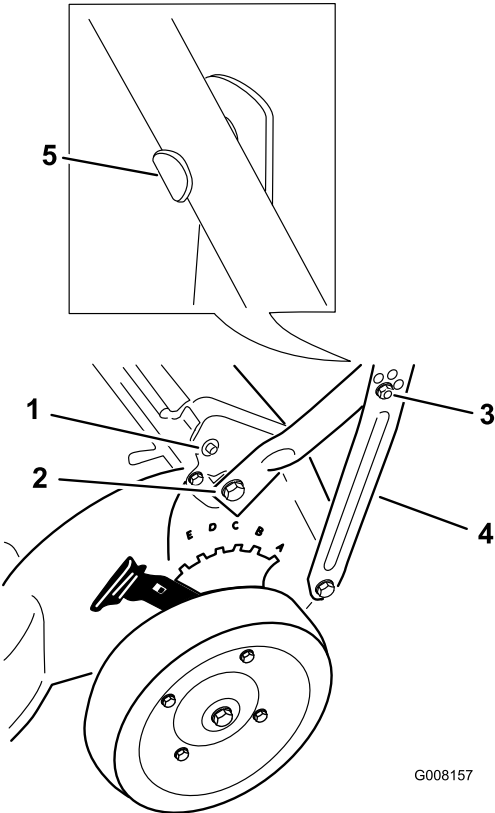

Figure 3
3. Attach the handle braces to the lower handle sides with 2 oval-head bolts, and secure them finger tight using 2 locknuts (Figure 3).
4. Align the oval bolt heads with the handle as shown in Figure 3; then, holding the heads in that position, tighten each nut with a wrench to pull the square shank into the handle until the bolt heads are tight against the handle.
Note: Attach the cable tie as low as possible on the handle to prevent the cable(s) from hooking onto the end cap on the rear door rod and interfering with the self-propel system (Figure 3).